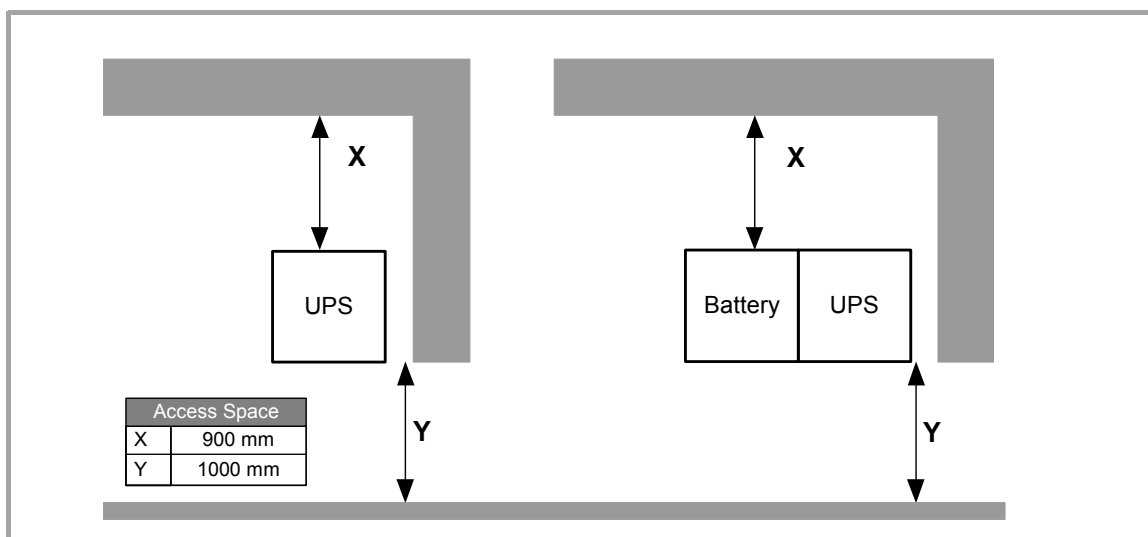

Figure 3.1 UPS Space Recommendations
3. The UPS requires space at the bottom (front and back) to enable cooling airflow. Suitable ventilation airflow must be provided (See Figure 3.1).